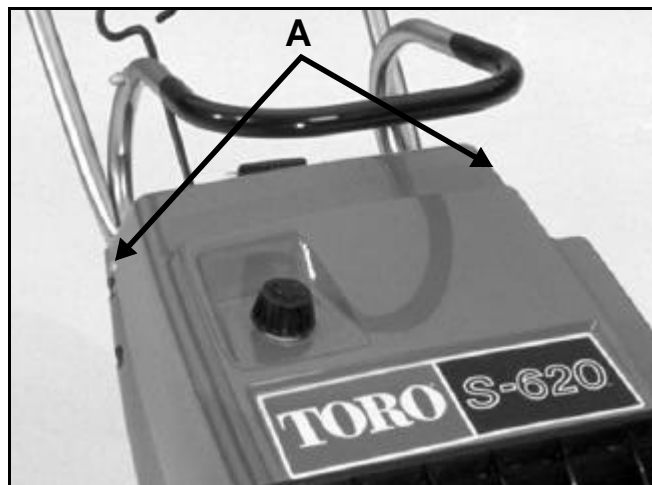

Figure 150
4. Remove the two self-tapping screws from either side of the upper shroud to the handle and remove upper shroud (Figure 150).